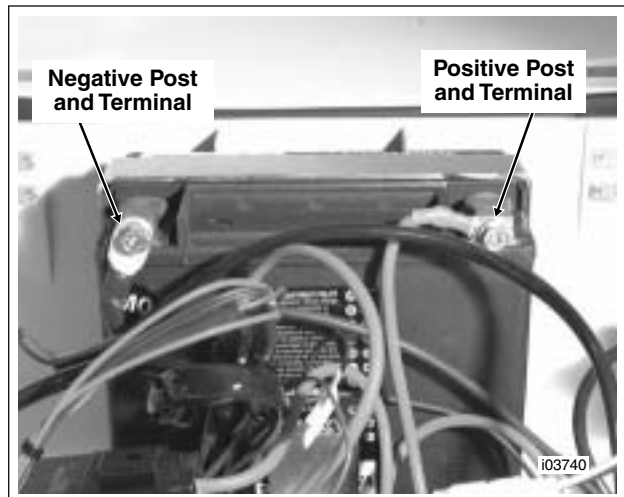

Figure 8-46. Install Tour-Pak Battery Terminals
33. See Figure 8-46. Return to Tour-Pak and locate positive and negative battery cables. Route positive battery terminal to battery and install terminal to battery post. Tighten terminal to 30 in-lbs (3.4 Nm).